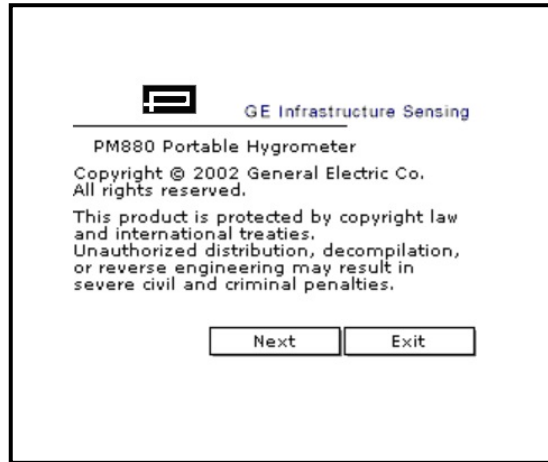

Figure 32: About Window
3. Use the arrow key to scroll to About and press **[ENTER]**. A screen similar to *Figure 32* appears.